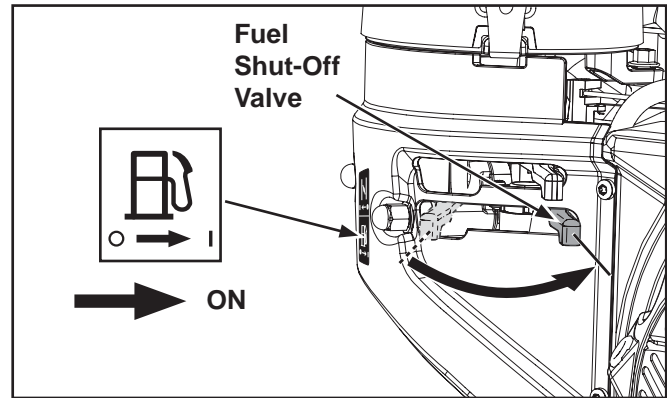

Figure 5. "On" Position of Fuel Shut-Off Valve.
1. Turn the fuel shut-off valve to the "ON" position. See Figure 5.